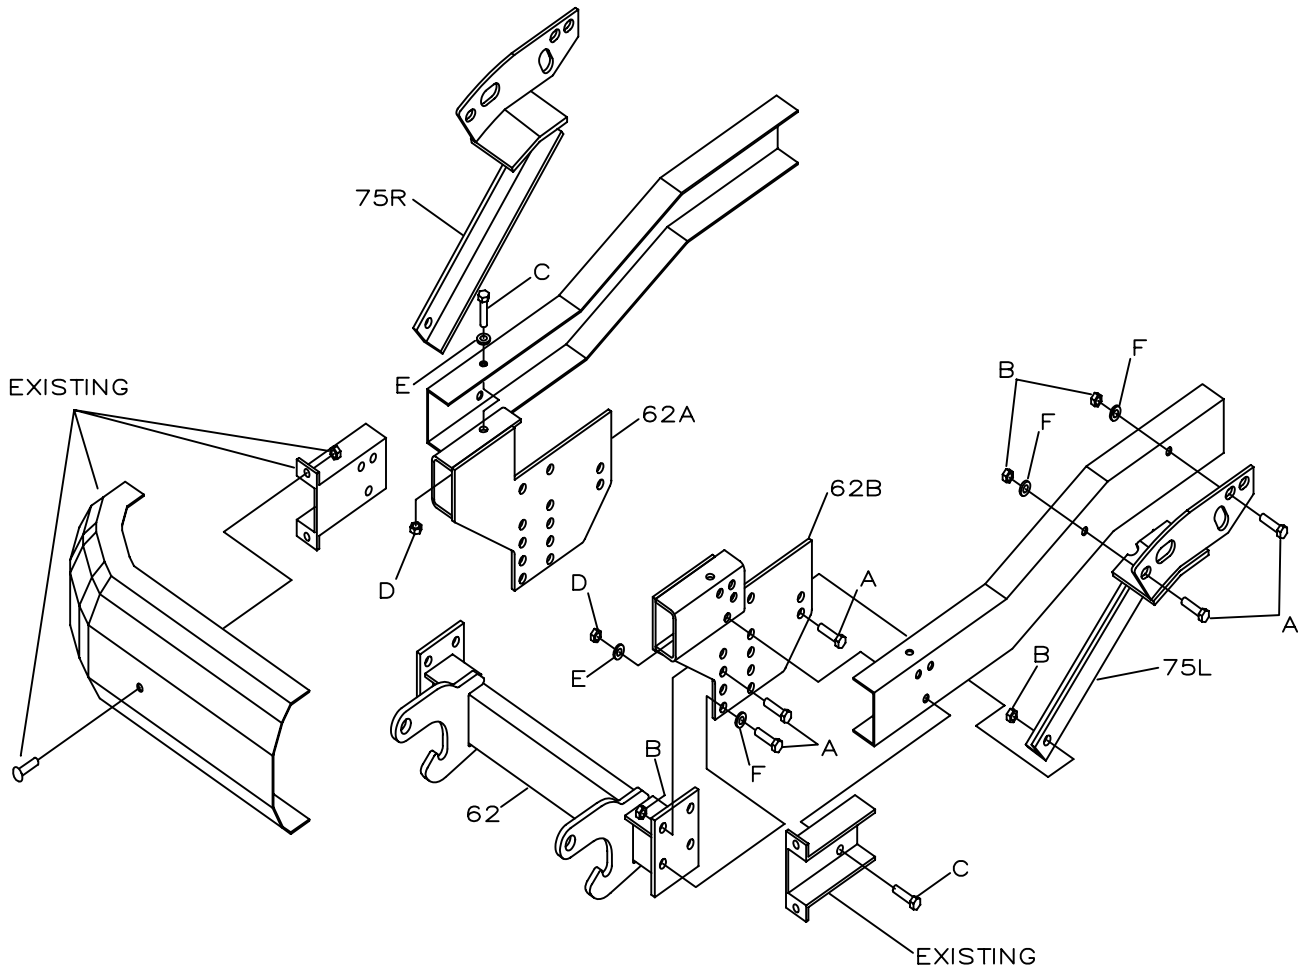

Figure 1
3. Position the PUSH BEAM SUPPORT PLATES (Ref. 62A and 62B, Fig. 1) and Front Bumper Mounting Brackets on the Frame Horn and attach using 1/2" – 13 x 2" HEX HEAD BOLTS, 1/2" – 13 HEX HEAD SELF LOCKING NUTS, and 1/2" FLAT WASHERS as shown in Figure 1. Note that 3 bolts attach through the side of the Frame Horn, and one bolt through the top of the Frame Horn.
4. Position the PUSH BEAM (Ref. 62, Fig 1) between the PUSH BEAM SUPPORT PLATES using 5/8" – 11 x 2" HEX HEAD BOLTS and 5/8" – 11 HEX HEAD SELF-LOCKING NUTS.
5. Position the ANGLE BRACKET (RH) (Ref. 75R, Fig. 1) between the frame rail and PUSH BEAM SUPPORT PLATE. Bolt the ANGLE BRACKET to the PUSH BEAM SUPPORT PLATE using 5/8" – 11 x 2" HEX HEAD BOLTS and SELF-LOCKING NUTS.
7. Install the ANGLE BRACKET (LH) (Ref. 75L, Fig 1) following the same procedure as steps 5 and 6 above.